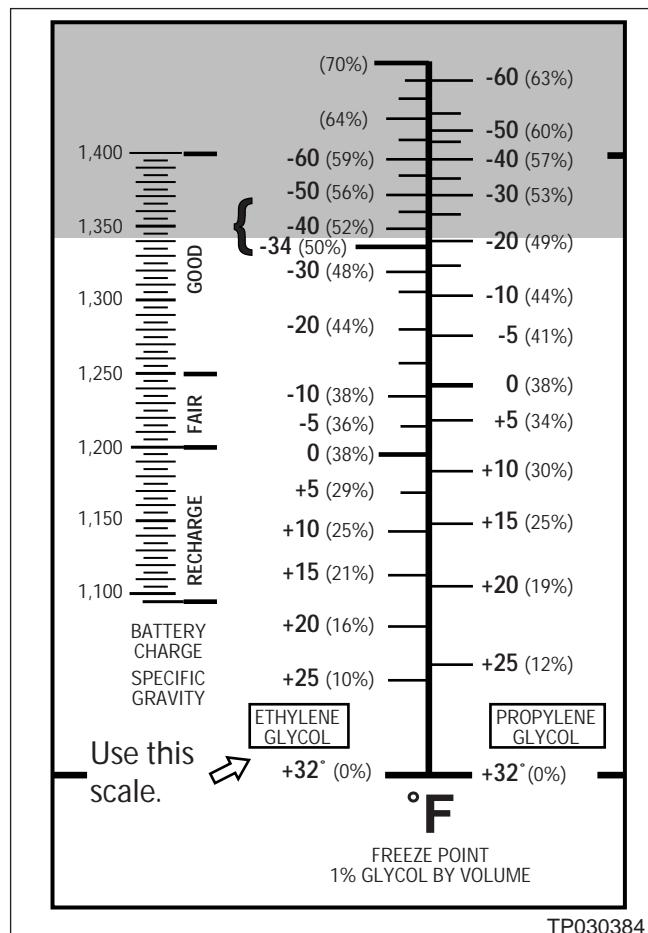

Figure 3
- The refractometer has the percentage of ethylene glycol written on the scale (see Figure 3).